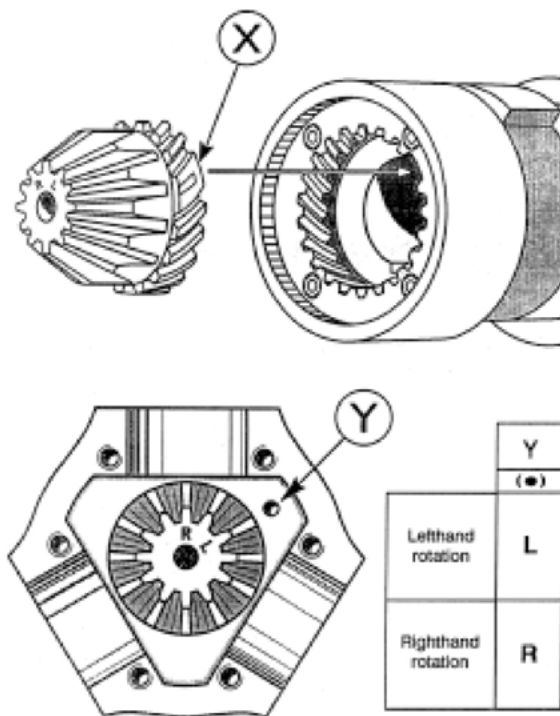

Fig. 3
- 3) **ASSEMBLY:** Make sure that if you receive more than one propeller that you do not interchange parts. Each propeller is individually balanced and if interchanged it will be put out of balance. Please use figure 3 in the instruction book for part number references.
- E)** Locate the mark on the top inside of the spinner (a small drill hole). This is the "Y" mark in fig. 3. Rotate the spinner until the "Y" mark on the spinner coincides with the correct letter on the top of the cone gear. "R" is for a right hand rotation shaft and "L" is for a left hand rotation shaft. (Shaft rotation is determined from the stern of the boat looking forward).